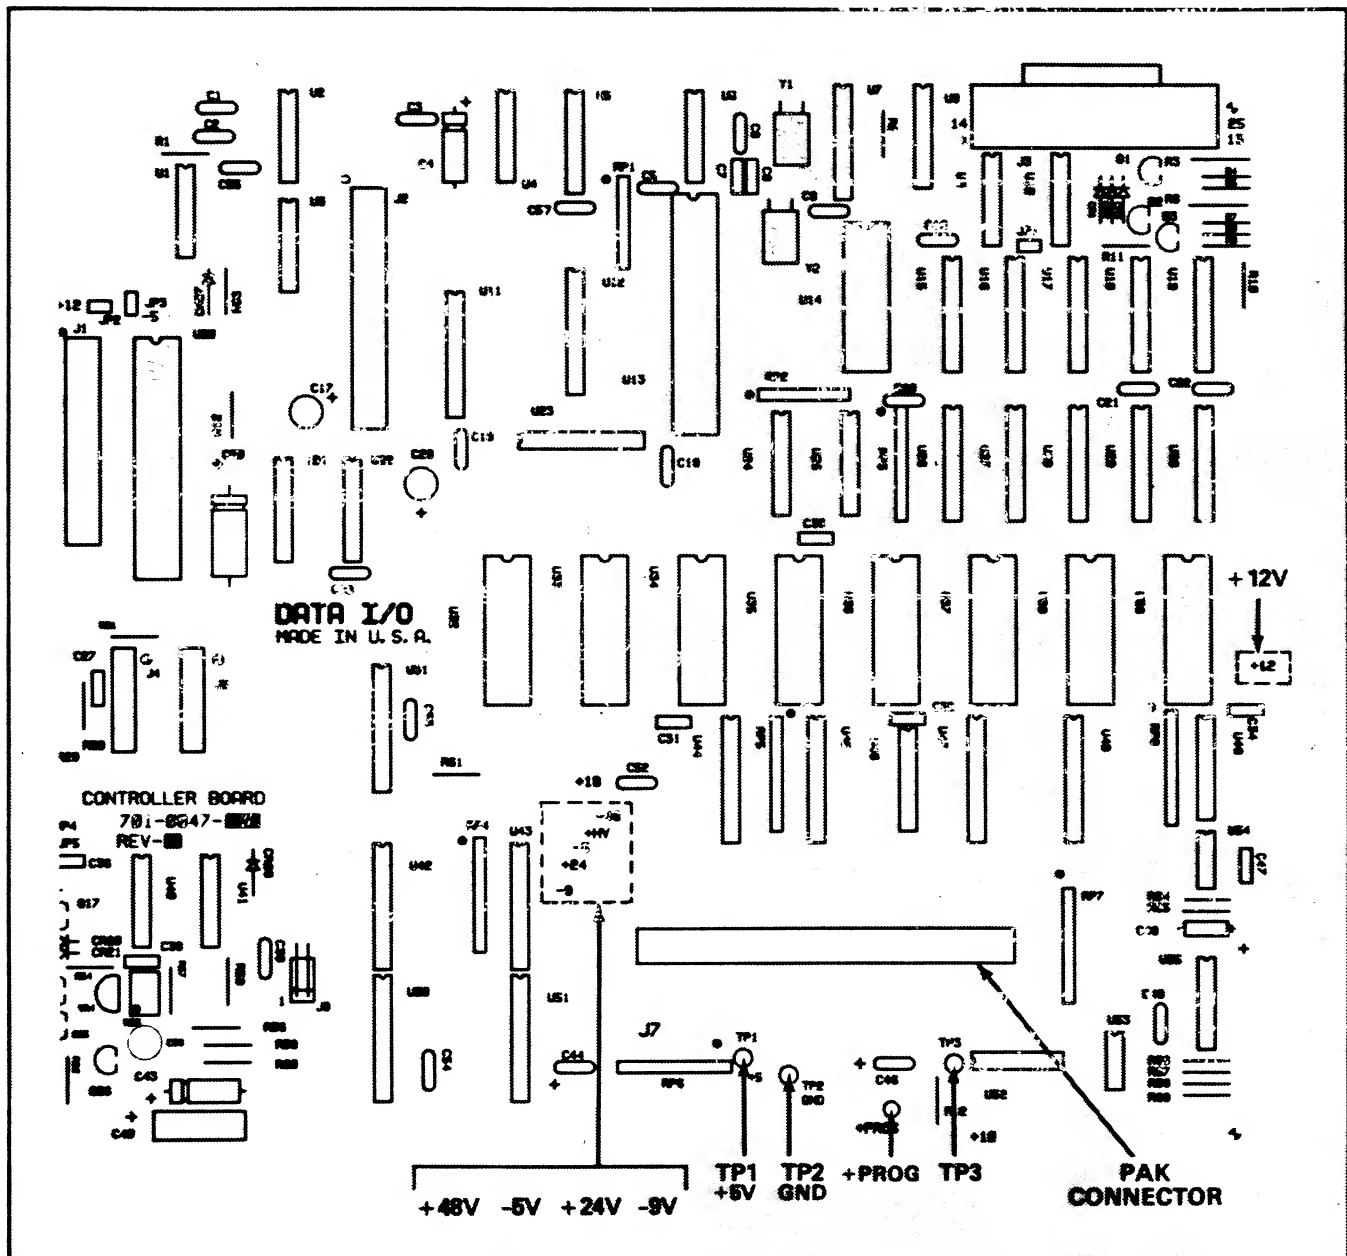

Figure 2. Test Point Locations
1. With the jumper wire, jumper test points TP2 and TP3, near the front edge of the controller board (see figure 2).
2. Connect your DMM to ground at TP2 (see figure 2).
With the DMM, measure the power supplies at the test points listed in table 2. The voltages of these test points should fall within the ranges listed in table 2. The location of the test points are shown in figure 2.